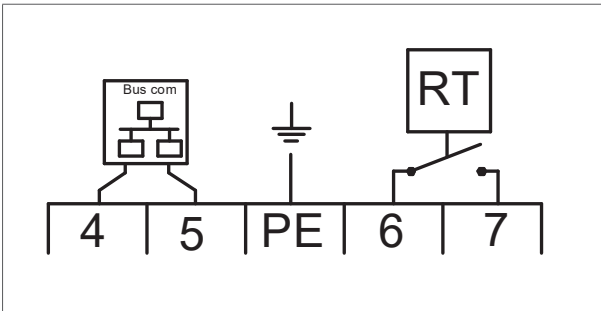

Figure 5 - Bus communication connection
1. Connect the two control wires to terminals 4 and 5 (see figure 5 or the electrical wiring diagram in §11).